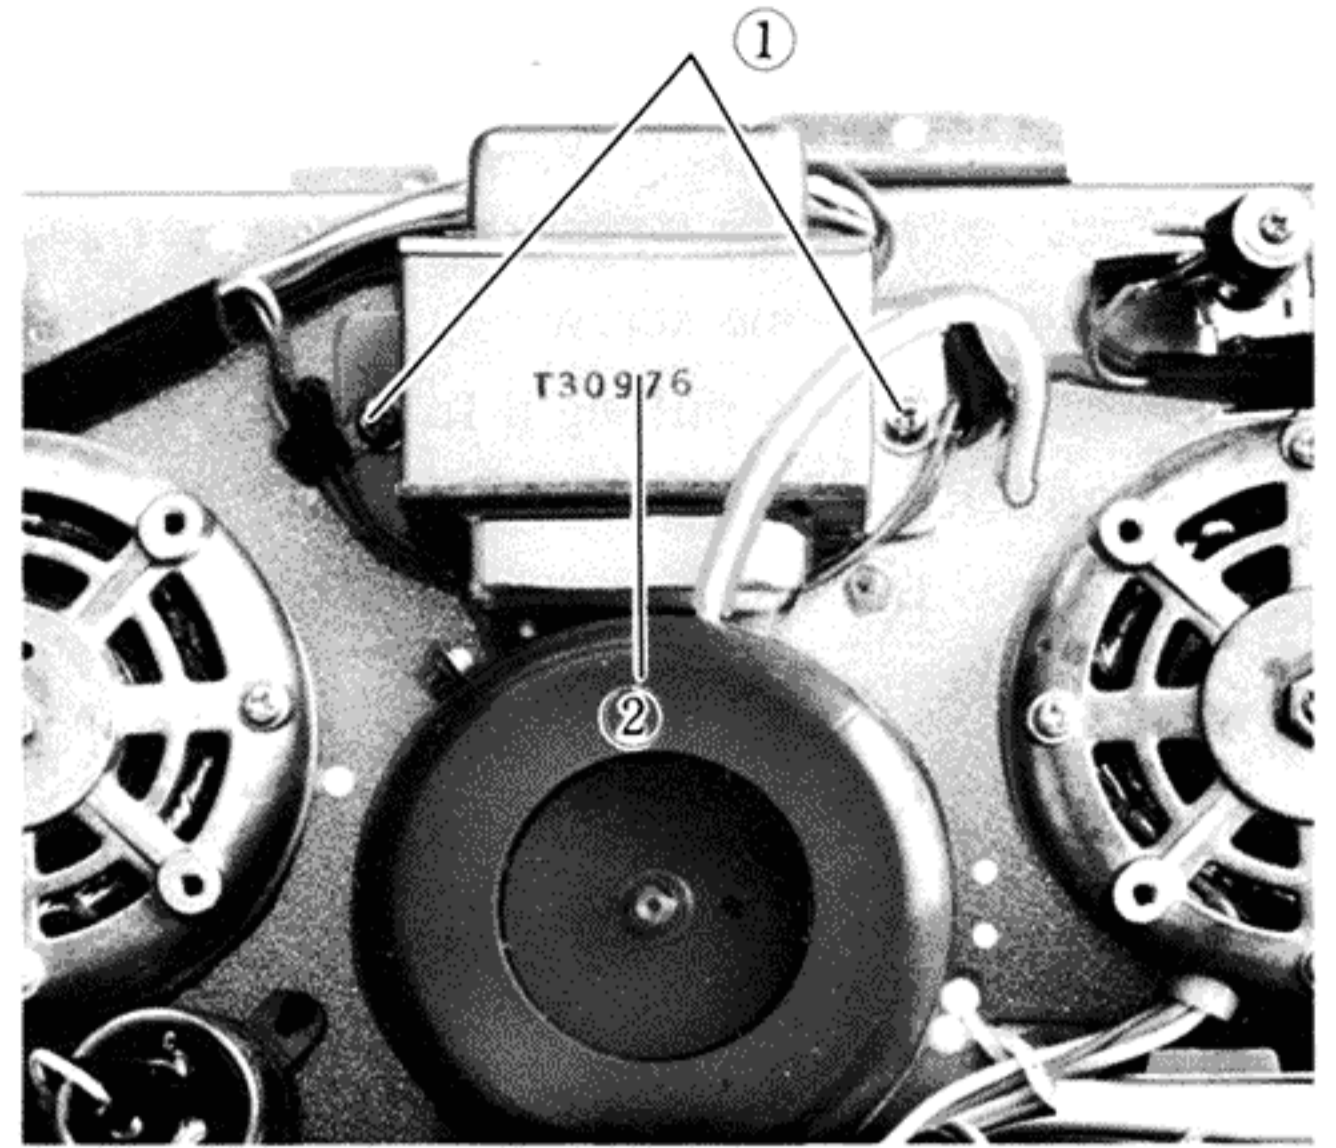

Fig. 12
11. Removing the power transformer (Fig. 12)